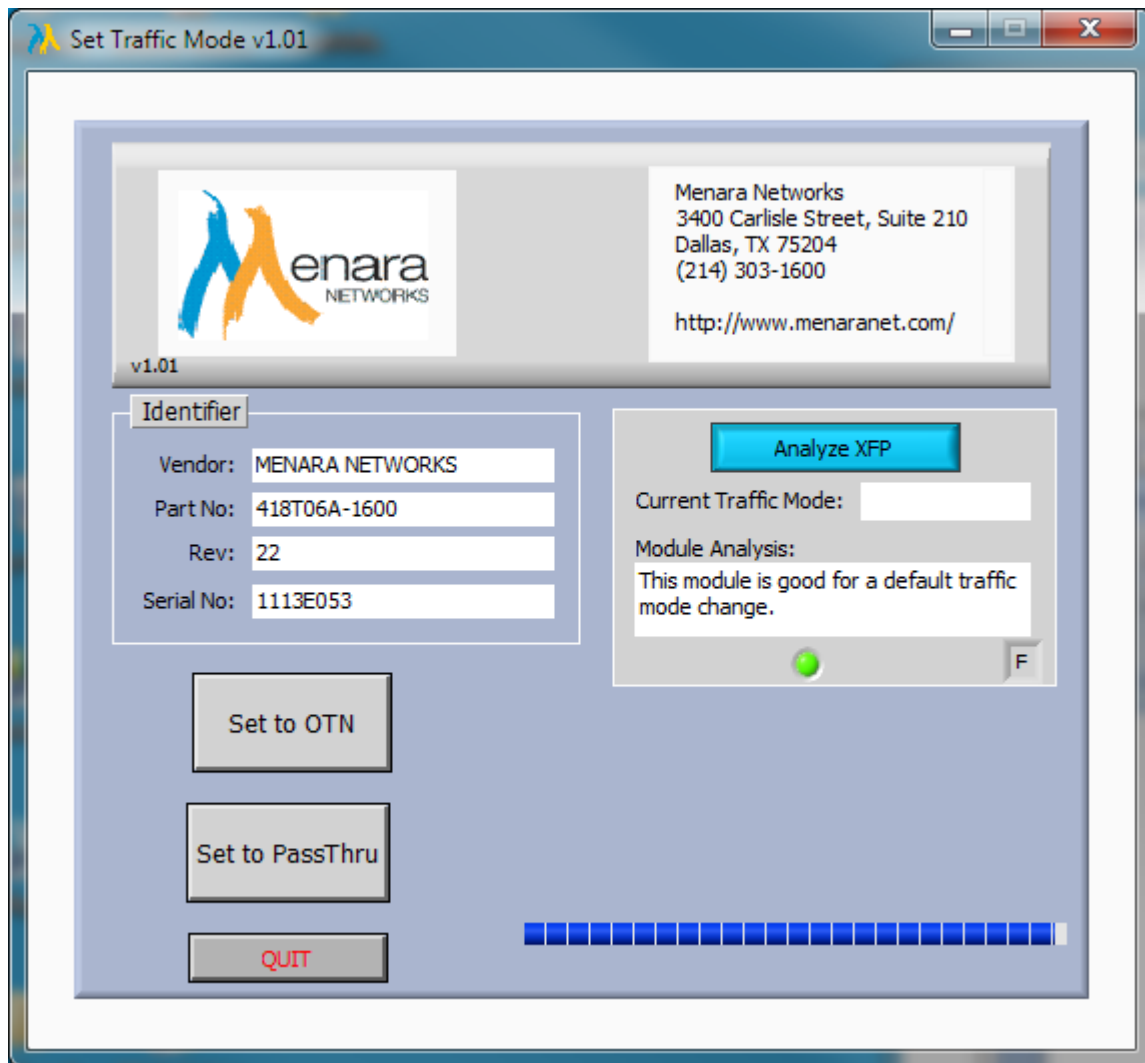

Figure 11: Traffic Mode Setting GUI – Analyze XFP
2. Enter a proper IP address (Network Mode only) and then press enter. If there is an OTN XFP module already in the left slot, the GUI will start to analyze the XFP to determine if it is compatible for default traffic mode switching and the current traffic mode as shown in Figure 11.